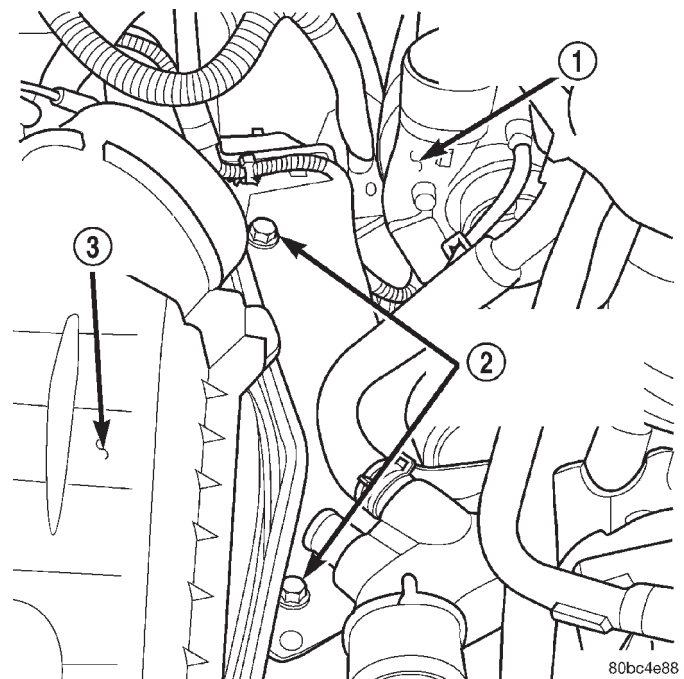
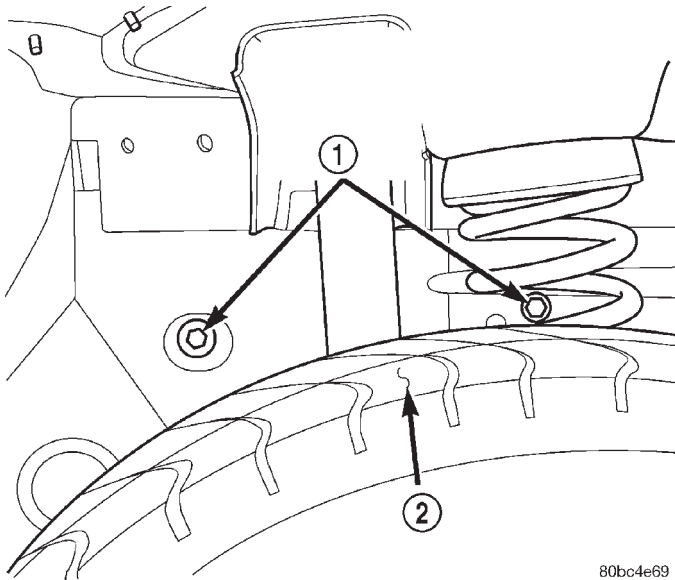

Fig. 23 Engine Mount Sill Plate Bolts - Rightside
Fig. 24 Engine Mount Sill Plate Bolts - Right Wheel Well
(10) Install the rightside engine mount sill plate retaining bolts (Fig. 23). Leave bolts loose at this time.
(11) Partially raise the vehicle on the hoist.
(12) Install the engine mount sill plate retaining bolts in the right wheel well (Fig. 24). Leave bolts loose at this time.